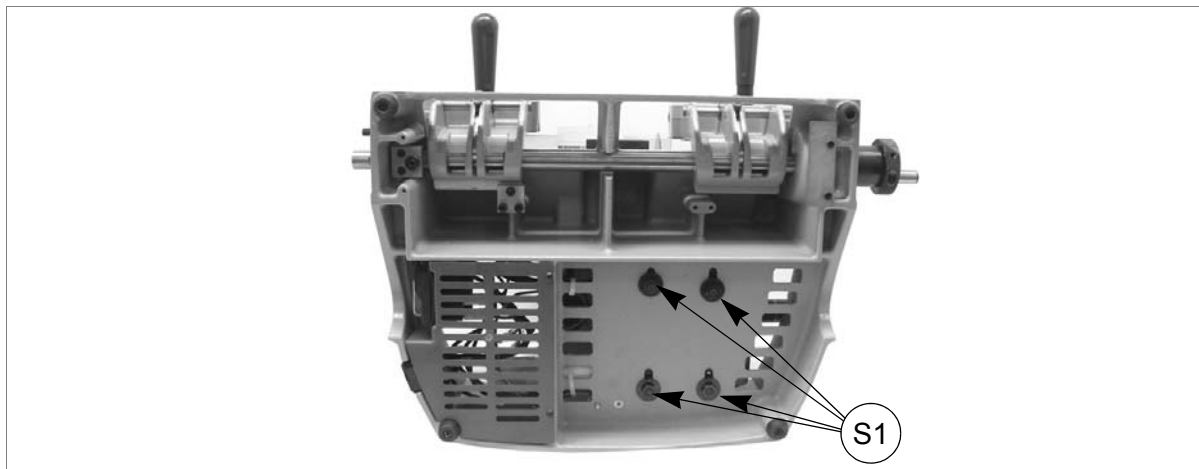

Fig. 66
- 2) Access the bottom part (chap.8.2, page 41) and loosen the 4 nuts (S1) of the plate motor (fig. 66).